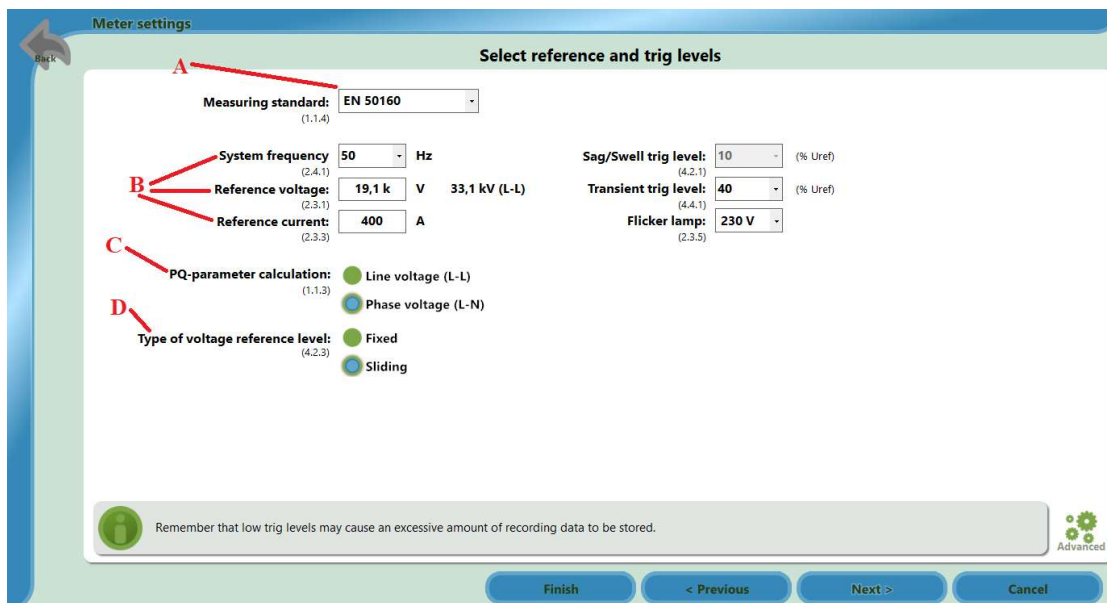

Figure 60
- Set reference and trig levels (Figure 60).